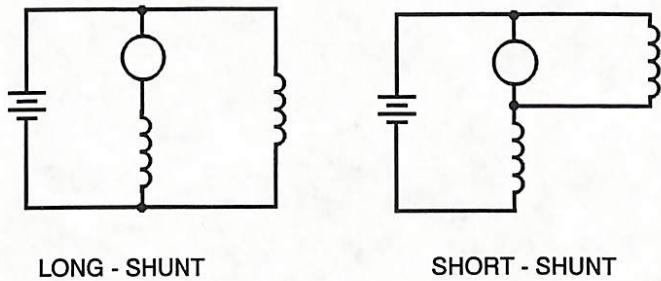

Figure 9. Compound Motor.
**Compound.** When the series and shunt-type windings are combined in one motor, the resulting machine has both high starting torque and constant speed. See Figure 9.